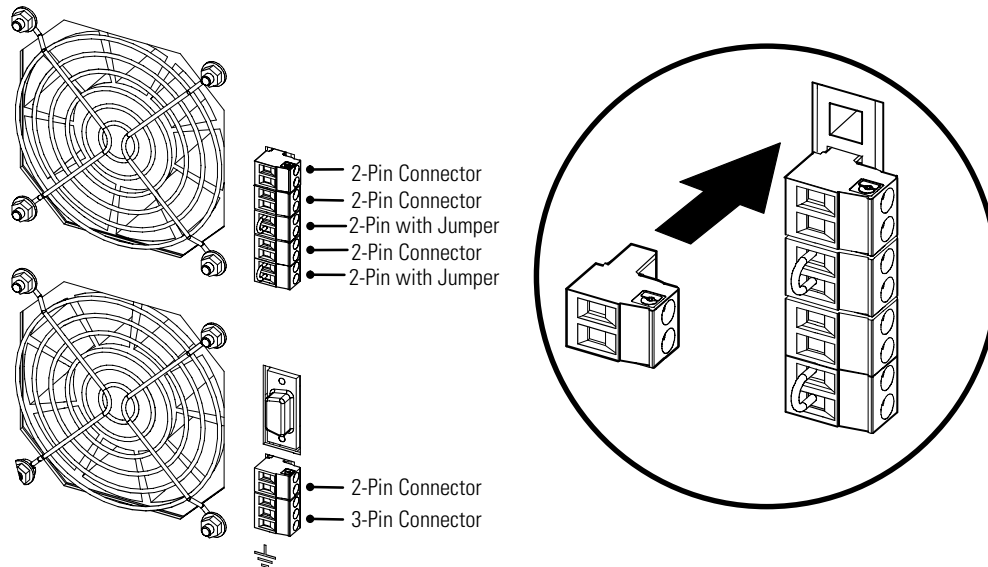

Figure 25. Installing the Communication Terminal Block Connectors
18. On the UPS rear panel, plug in the supplied communication terminal block connectors as shown in Figure 25.